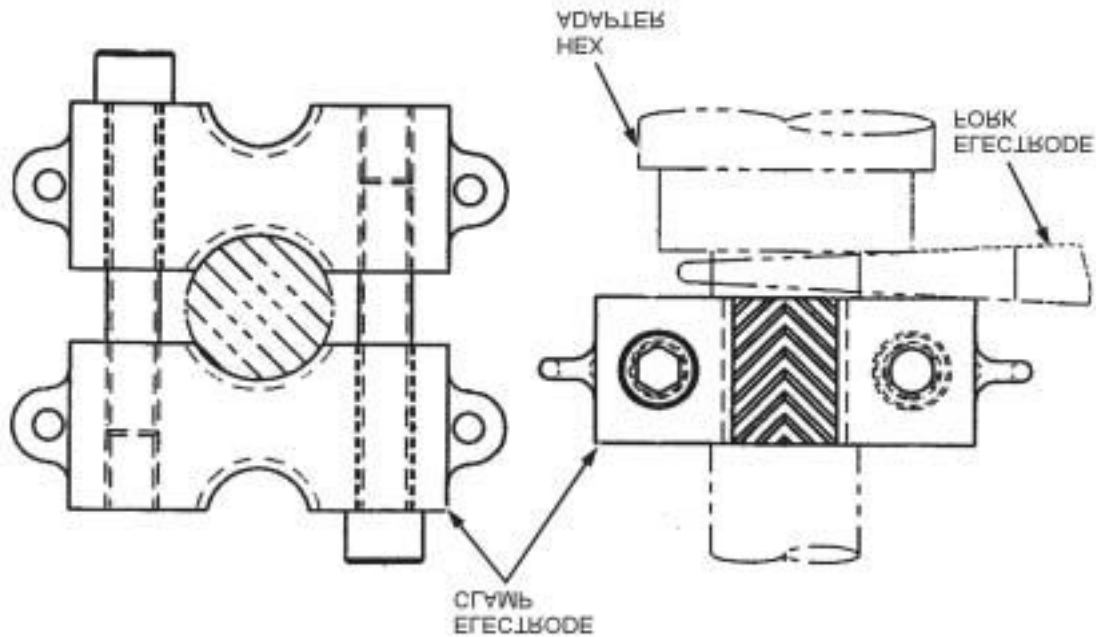

Figure 8.1: Shank Removal Tools
1. Install electrode clamp "WG-10797-51" to electrode shank. See Figure 8.1.
2. Insert electrode fork "WG-10818-51" See Figure 8.1.